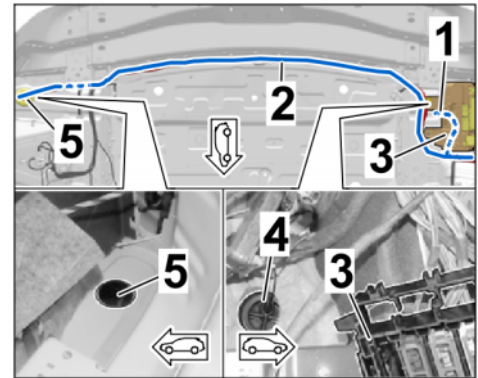

*Figure 19*
3.2.3 Wheel housing area, left ⇒ *Figure 19*